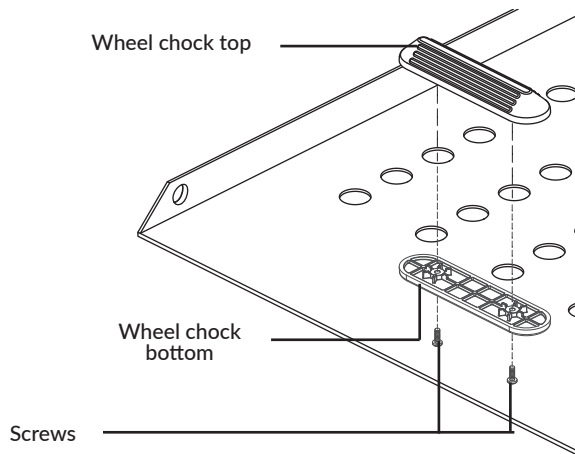

Figure 4-16
6. Position the wheel chock bottom on the underside of the platform, aligning it with the wheel chock top. *See Figure 4-16.*